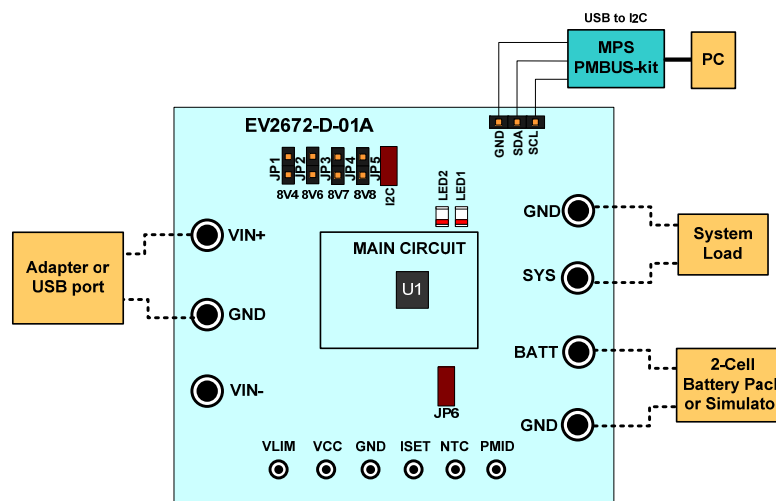

Figure 2: Test Setup for MP2672 Host-control mode
As figure 2 shows, connect CV pin to VCC to set Host-control mode. The battery regulation voltage and charge current is according to the register. And evaluation platform need be prepared in advance for Host-control mode.
- 4) Original Test Setup for MP2672 in Figure 2